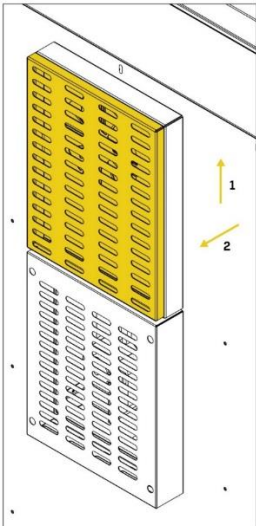

Fig. 8 Replacing the air filter
2. Remove the filter housing by pulling it up (Fig. 8, step 1) and towards you (Fig. 8, step 2).